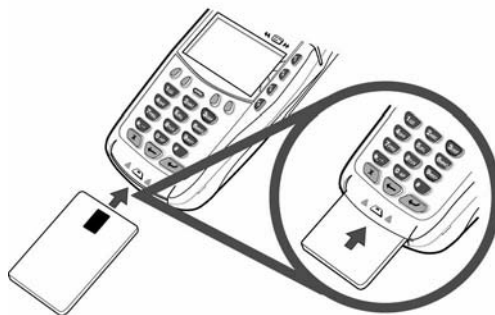

Figure 16 Using the Primary Smart Card Reader
- 1 Position the smart card with the contacts up and insert it into the smart card reader slot in a smooth, continuous motion until it seats firmly (Figure 16).